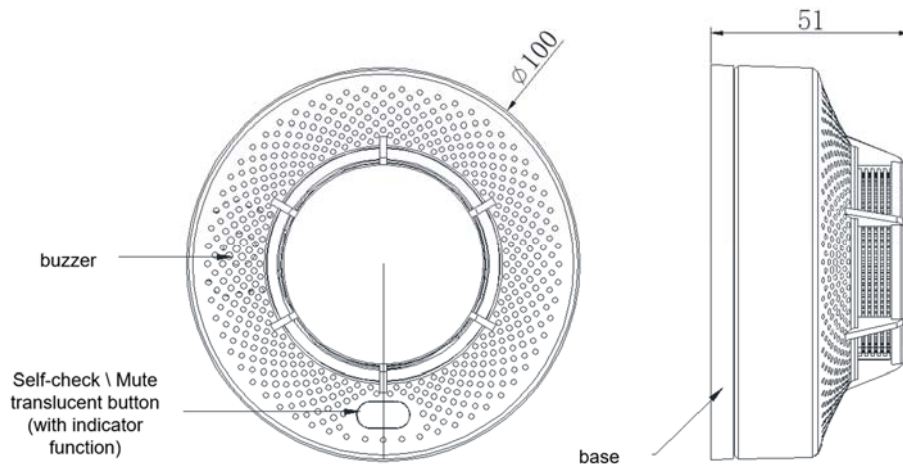

Figure 1 Schematic diagram of the alarm
1. The size of the alarm is shown in Figure 1 (unit: mm)